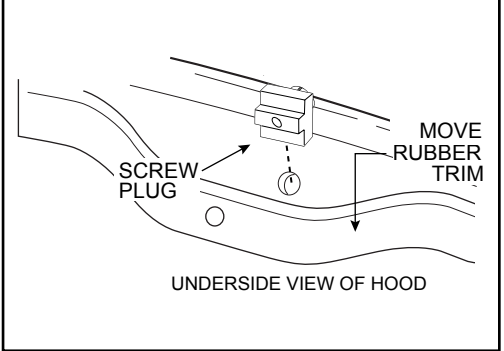

Figure 4
4. Insert the four screw plugs provided into the enlarged holes, as shown. Ensure the boss heads of screw plugs are parallel to the edge of hood (see Figure 4).